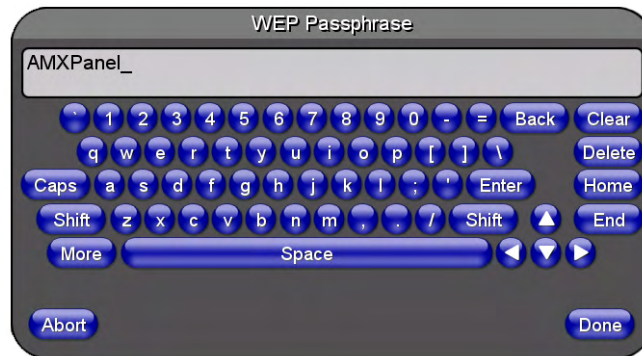

FIG. 27 WEP Passphrase Keyboard
8. Within the WEP Passphrase keyboard (FIG. 27), enter a character string or word (such as *AMXPanel*) and press **Done** when finished.